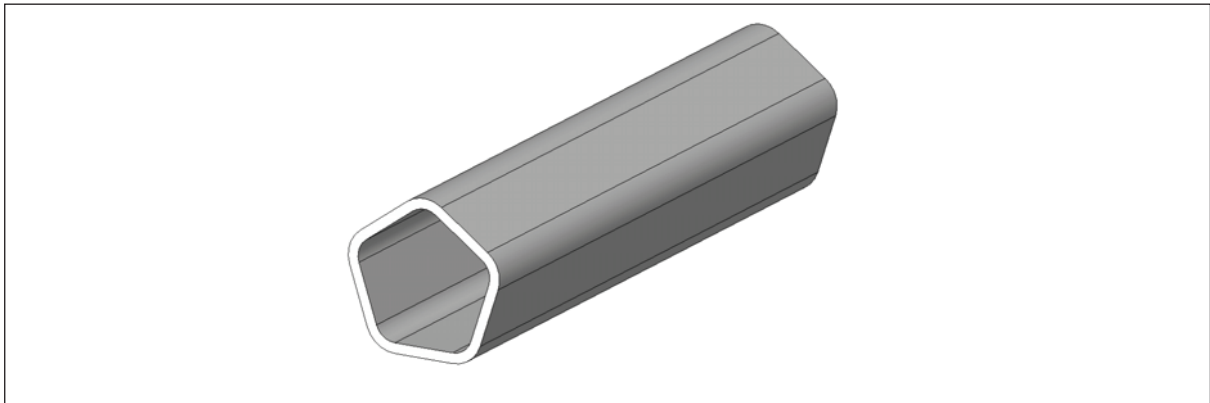

Fig. 12-5: Oxygen sensor removal tool
- Oxygen sensor removal tool (see Fig. 12-5 on p. 77)
3. Using the sensor removal tool (see Fig. 12-5 on p. 77), unscrew the oxygen sensor by turning it counter-clockwise. Because the oxygen sensor contains lead, be sure to dispose of it according to local regulations.